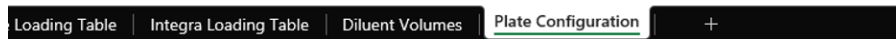

Figure 5: Plate Configuration tab visualizes the sample locations.
- f. Navigate to the "Plate Configuration" tab to visualize the final sample location within the 96 well plate format (Figure 5).